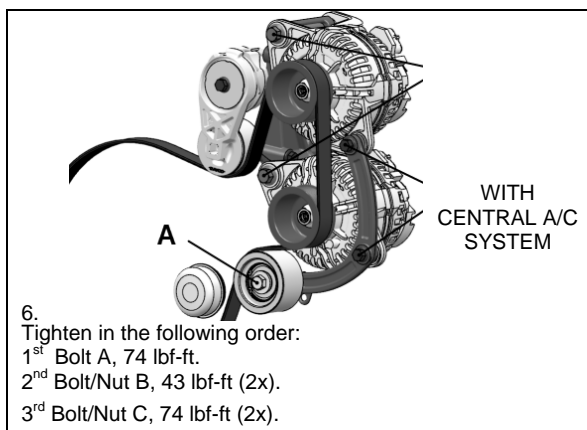
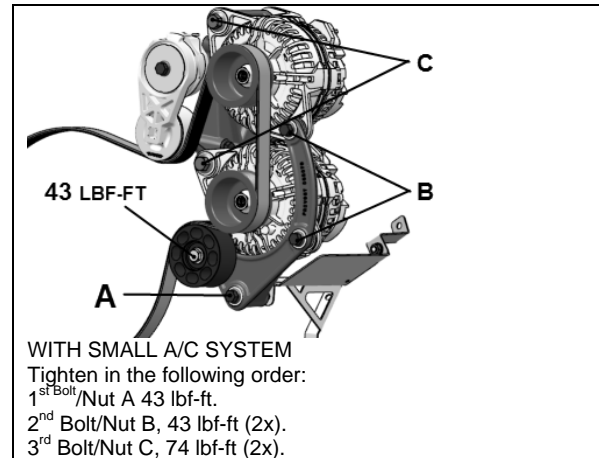

Figure 23: alternator mounting, tightening sequence – central a/c system
FIGURE 24: ALTERNATOR MOUNTING, TIGHTENING SEQUENCE – SMALL A/C SYSTEM
7. In order to assure installation, it is important to tighten the alternator mounting bolts in proper sequence. (fig.23 & fig.24).
The vehicle may be equipped with an engine immersion-type electric block heater to assist cold weather starting. The heater male electric plug is located on the engine compartment R.H. side door (fig. 23). To use it, connect the female plug of an electrical extension cord to the heater plug.